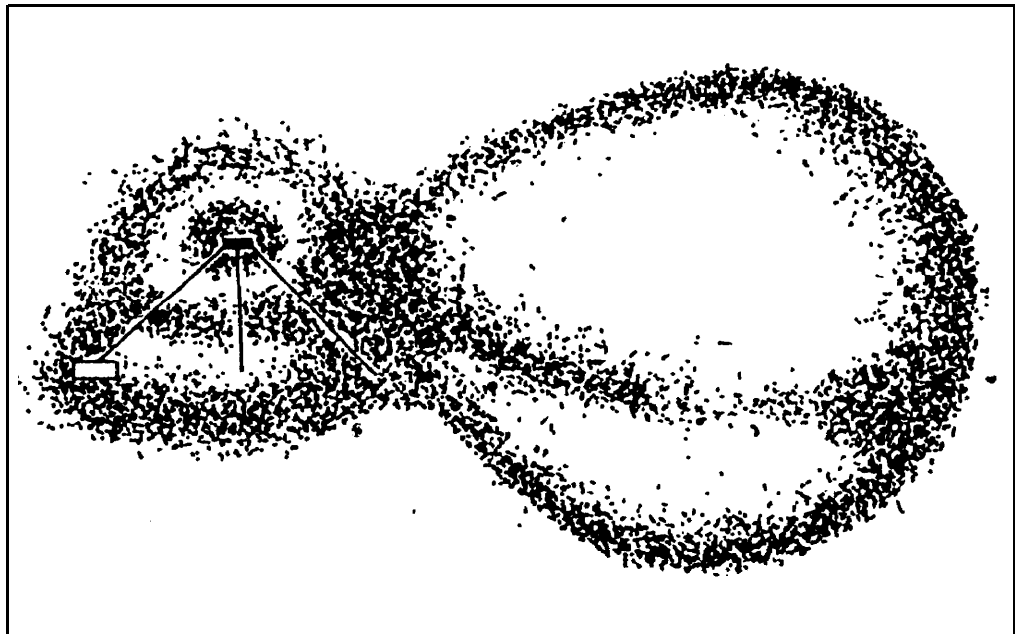

Figure D-8. Directional antenna pattern.
(3) *Directional*. A directional antenna has a single large lobe of radio energy in one direction (Figure D-8). It is much like a bidirectional antenna with one of its lobes cut off. Several bidirectional antennas (long-wire, sloping-Vee) are made directional by adding a terminating resistor that absorbs the second main lobe. A terminating resistor matches the antenna. A terminating resistor must be able to absorb one-half the power output of the connected transmitter and provide 400 to 600 ohms of resistance. A directional antenna concentrates almost all the radio signal in one specific direction; therefore, it must be carefully oriented. Depending on the antenna design, the main lobe of a directional antenna can cover 60 degrees or more or be a narrow pencil beam. Directional antennas are used on long-range point-to-point circuits where the concentrated radio energy is needed for circuit reliability. Directional antennas are difficult for the enemy to find the direction of transmission.